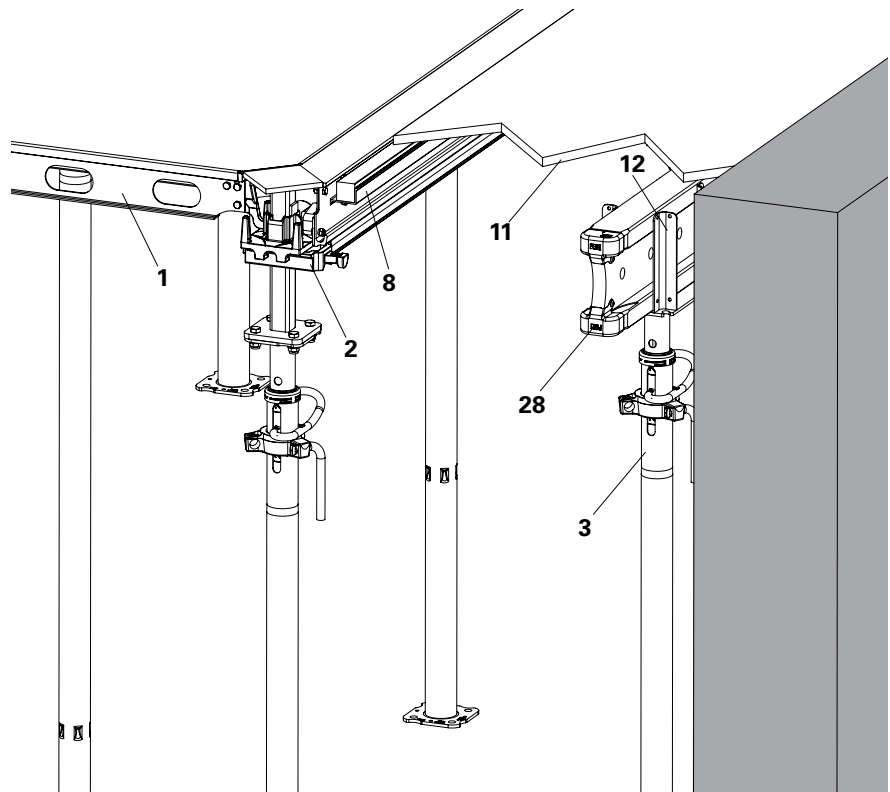

Fig. A6.03
6. Continuously fill the compensation area with the plywood (**11**). (Fig. A6.03)